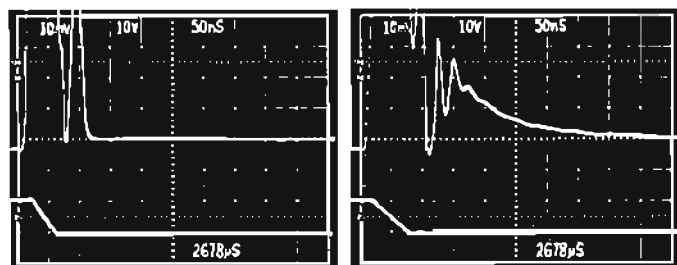

Figure 2. Error voltage comparing the AD841(left) and a DI device showing settling-time “tail”.
Settling time of amplifiers fabricated in CB surpasses that of dielectric-isolation (DI) amplifiers, which achieve their high performance using a well-known—but not totally satisfactory—technique. DI is expensive to fabricate and uses non-conventional processing techniques, often with poor yields. The charge redistribution that occurs in a DI op amp in response to a step input causes a significant and unavoidable settling “tail”, virtually eliminated in CB. The phenomenon can be seen in Figure 2, which shows the error voltage at a dummy summing point.